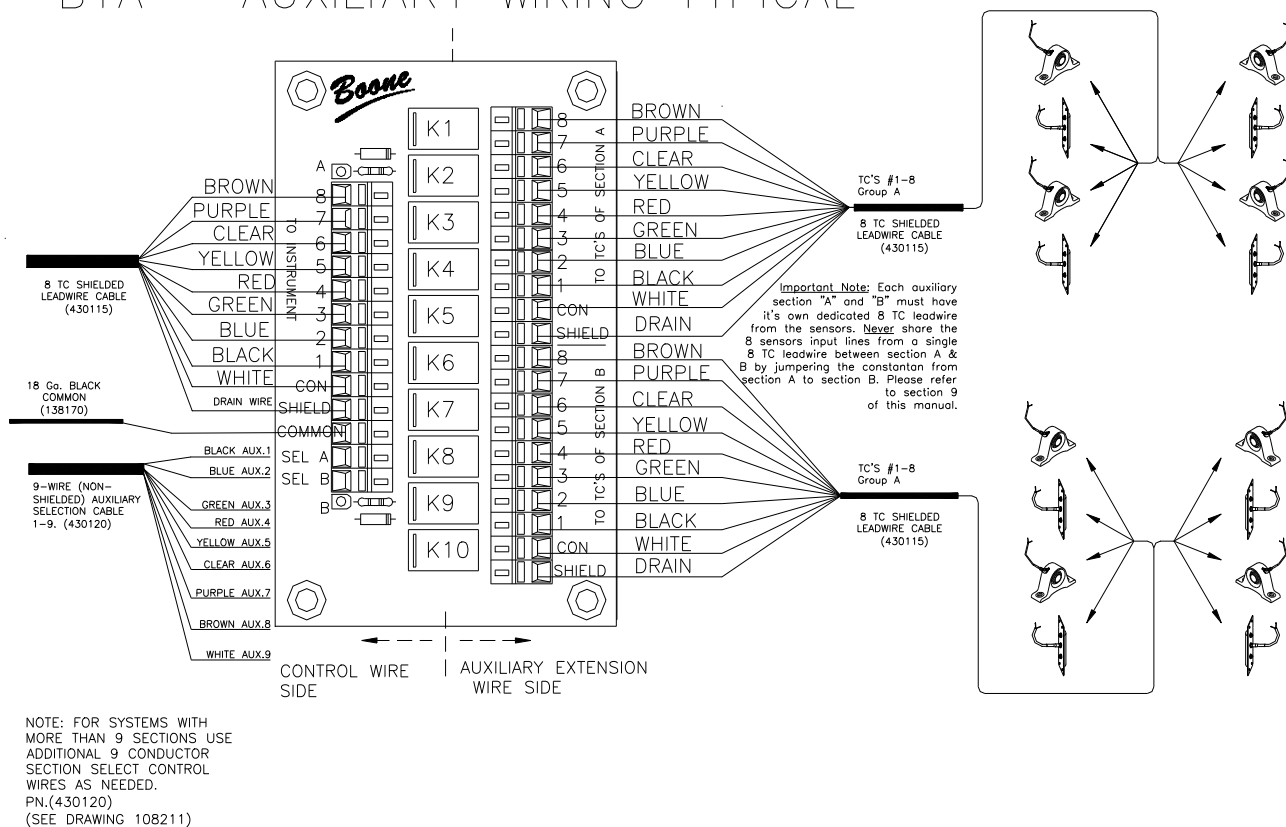

Figure 12. AUXILIARY CONNECTIONS
6.4.1. Auxiliary Extension Leadwire Cable (same as 8-TC Shielded Leadwire Cable) it runs from a grouping of Temperature Sensors to the input side of an Auxiliary Section. Be sure to connect shield drain wire to the “shield” terminal end only. See figure 12.
6.5. SPLICING Good connections are critical to the integrity of the system. Attention to detail here will yield a trouble free system and greatly reduce start up problems. Wire-to-wire splicing, is done for example where the sensor pigtail is connected to the *8-TC Shielded Leadwire Cable* (430115) so it can be extended to the *Auxiliary Bearing Board* (See figure12). It is also done where a section of *9-Wire Auxiliary Select Cable* (430120) needs to be extended or branched off in another direction. Splices should never be made and pulled into the conduit run.